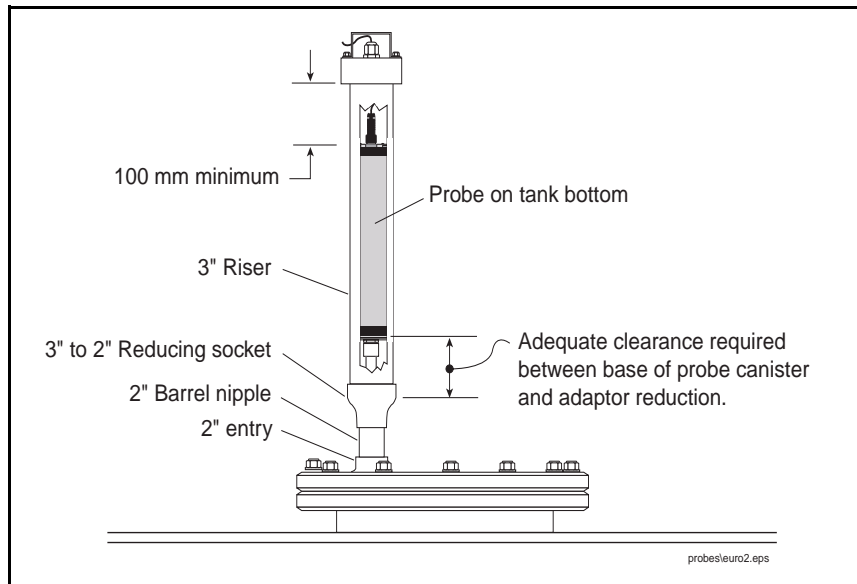

Figure 7. Canister clearance for 2-inch entries
- Probes specified for tanks with entries smaller than 3 inches must always be long enough to rest on the tank bottom and not ‘hang’ in the riser adaptor (see Figure 7).